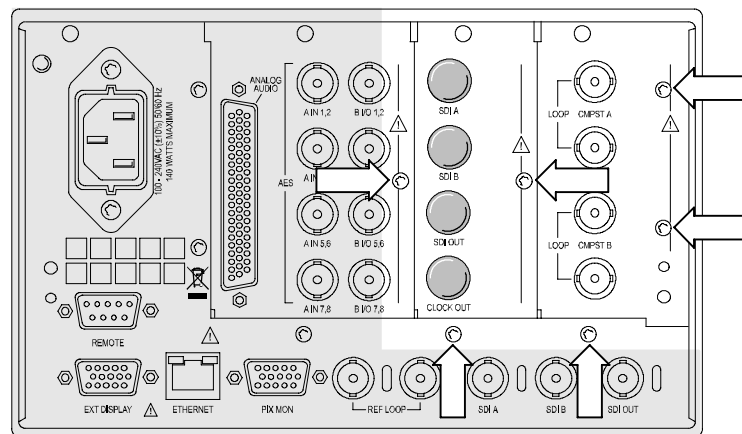

Figure 5: Removing the Option EYE and CPS rear panel screws
1. Remove the six screws from the Option EYE and CPS rear panels. See Figure 5. Save the screws for reinstallation.
- b. Install the six screws into the Option EYE and CPS or CPSL rear panels. See Figure 5 on page 18. Tighten the six screws and any adjacent rear panel screws you loosened to 8 in/lbs.